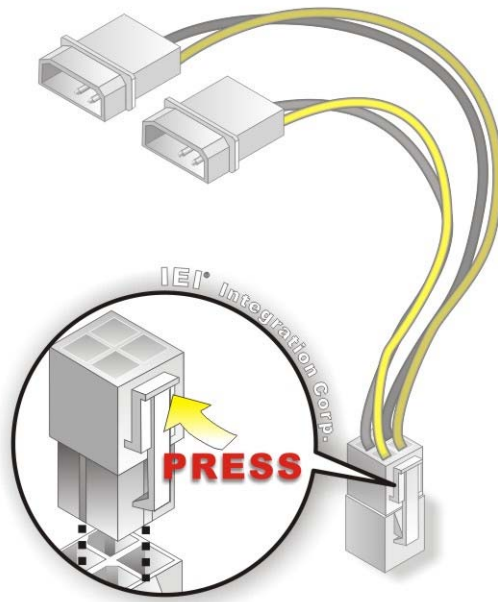

Figure 4-16: Power Cable to Motherboard Connection
Step 2: **Connect the Power Cable to the Motherboard.** Connect the 4-pin (2x2) Molex type power cable connector to the power connector on the motherboard. See **Figure 4-16.**